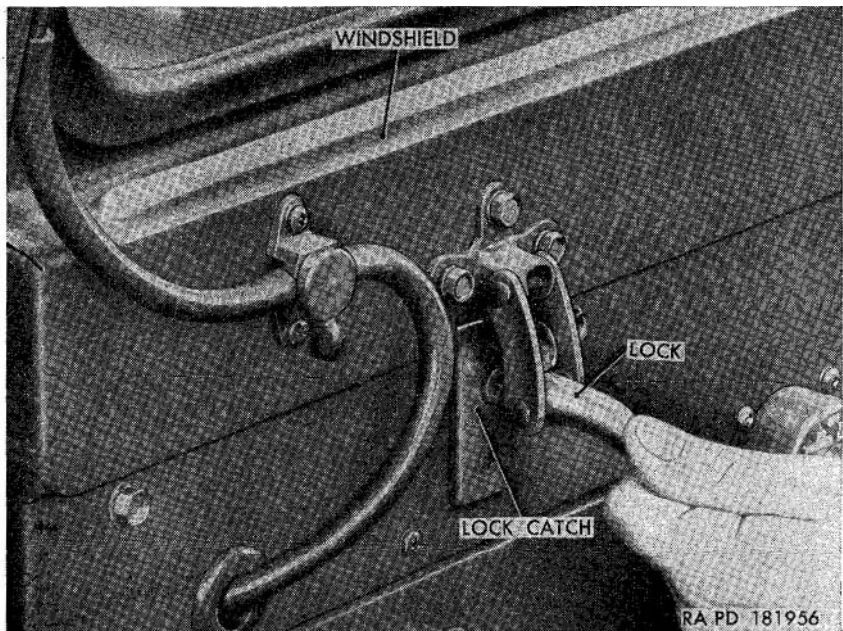
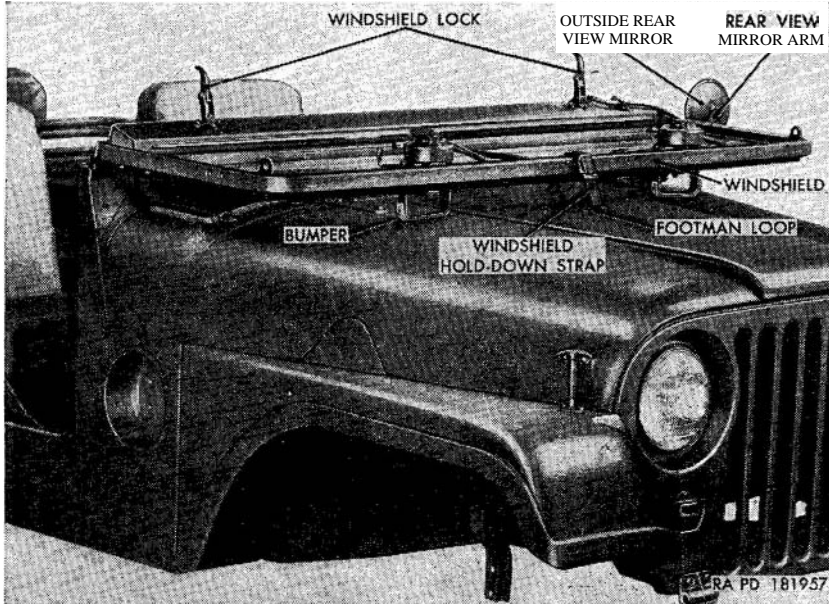

Figure 174. Unclamping windshield lock assembly.
Figure 175. Windshield assembly—lowered position.
*a. Lowering.* Unclamp the windshield lock (fig. 174) at each side of the windshield from the lock catch on the instrument panel. Carefully lower windshield forward until the two windshield-to-hood
bumpers rest on the hood. Secure windshield in lowered position by inserting the end of the windshield **holddown** strap with buckle assembly (secured on inner side of windshield frame) through the footman loop (fig. 175) on the hood and securing the strap in its buckle.
*b. Raising.* Unbuckle the windshield holddown strap (fig. 175) and withdraw strap from the footman loop on hood. Raise windshield to its upright position. Secure the windshield in raised position by clamping the windshield lock, at each side of the windshield, on the lock catch (fig. 174) on the instrument panel.